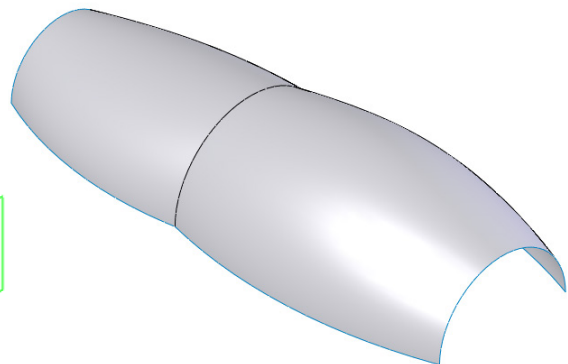

Figure 1-140 Resultant lofted surface
4. Invoke the **Lofted Surface** tool and create a lofted surface, as shown in Figure 1-140.